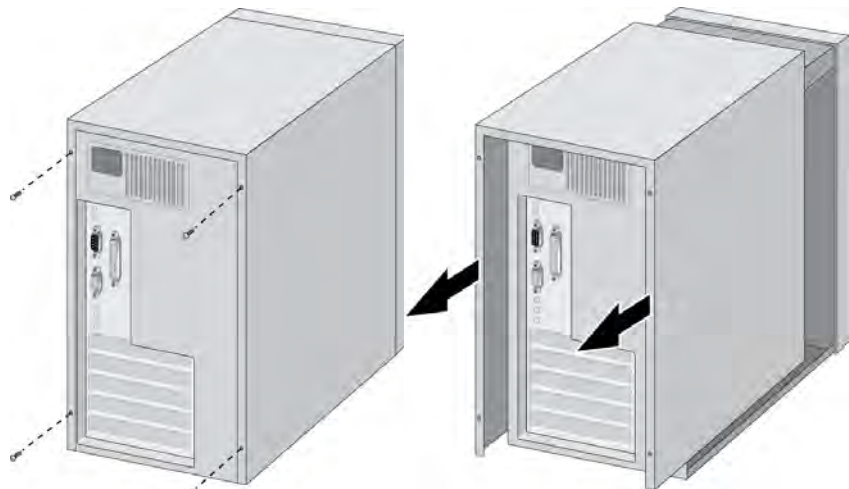

Figure 8. Removing the PC Cover
5. Remove the system cover. See Figure 8 .